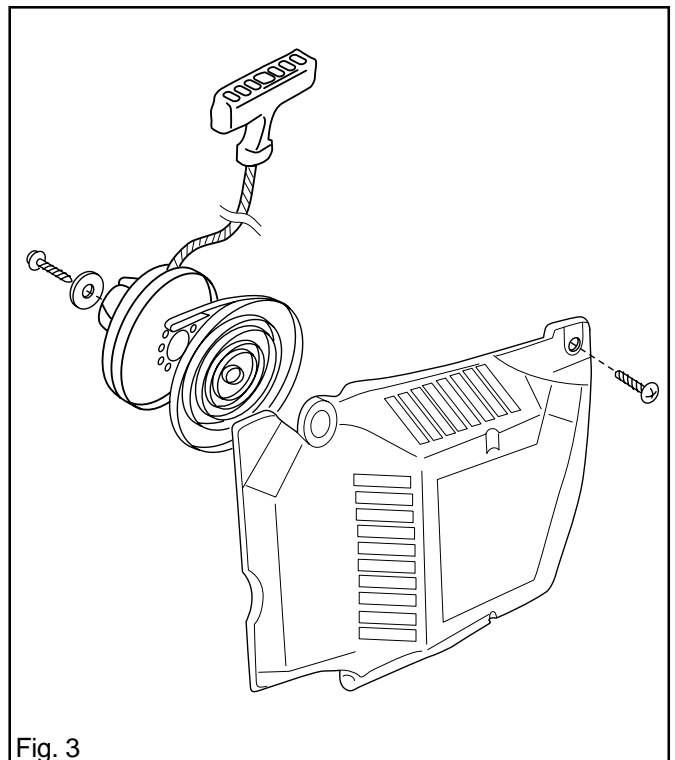

Fig. 3
4. Remove the central bolt and take out the washer and cord pulley. See fig. 3.